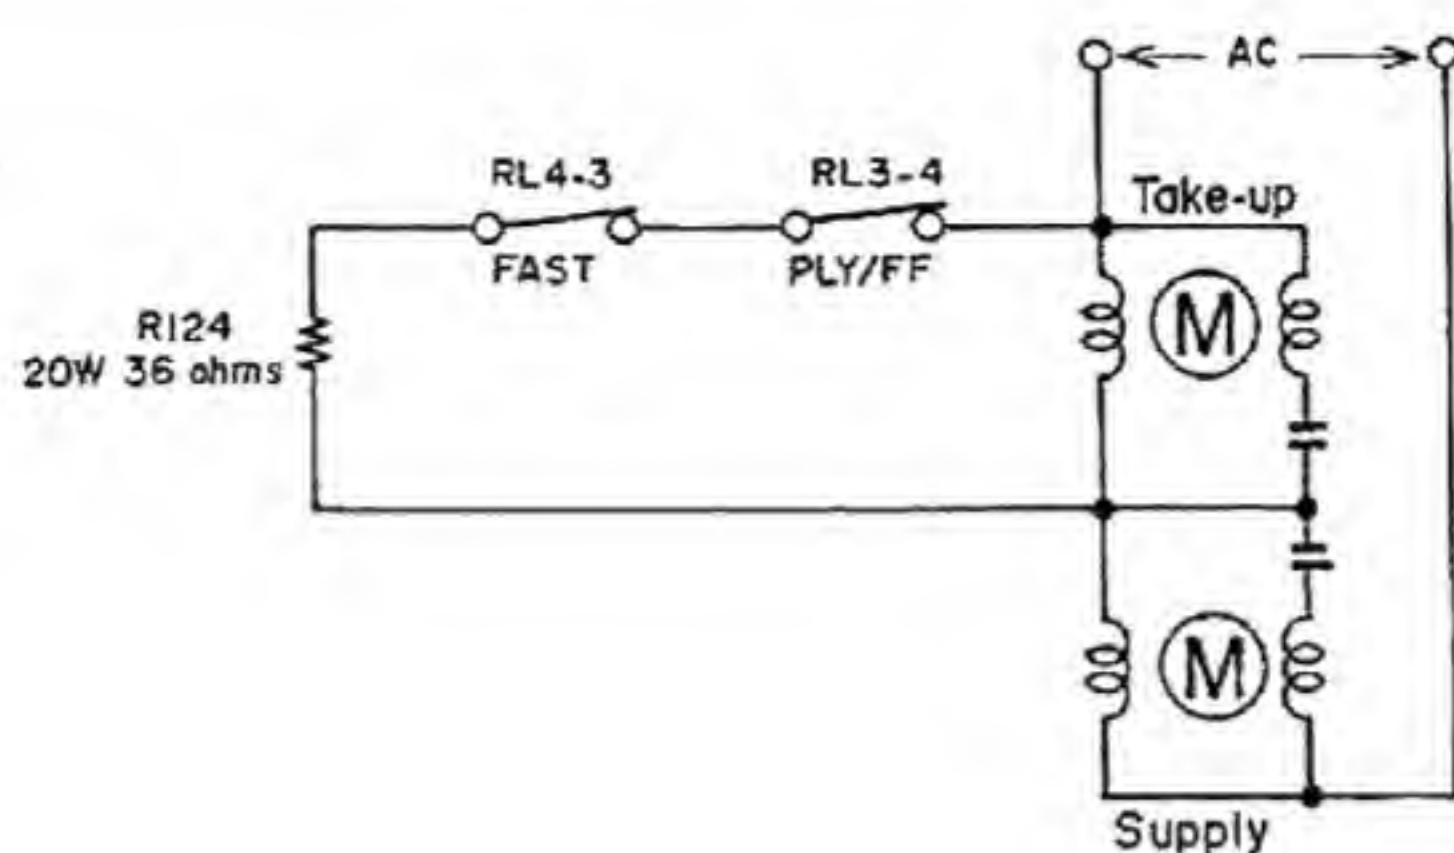

Fig. 29
Fig. 29 shows how the take up reel motor and the supply reel motor work. Since R124 36 ohms is connected in parallel to the take up reel motor, the torque of the supply reel motor is increased, and the tape is wound by the supply reel motor. If the counter indicates 0:00:50 from this position, "H" signal is issued from IC2 (12) (relay control).